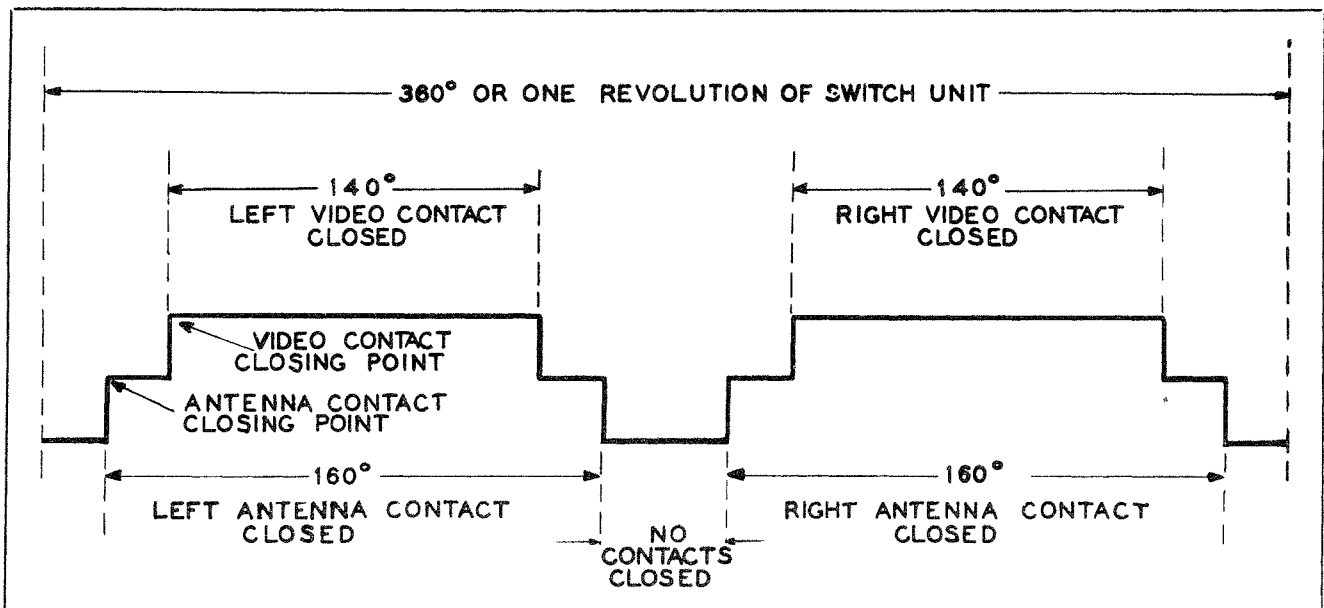
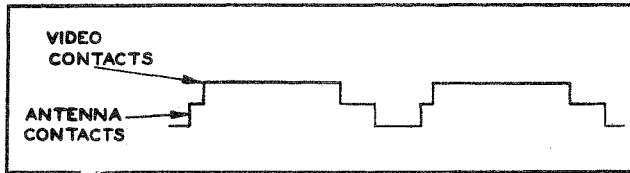
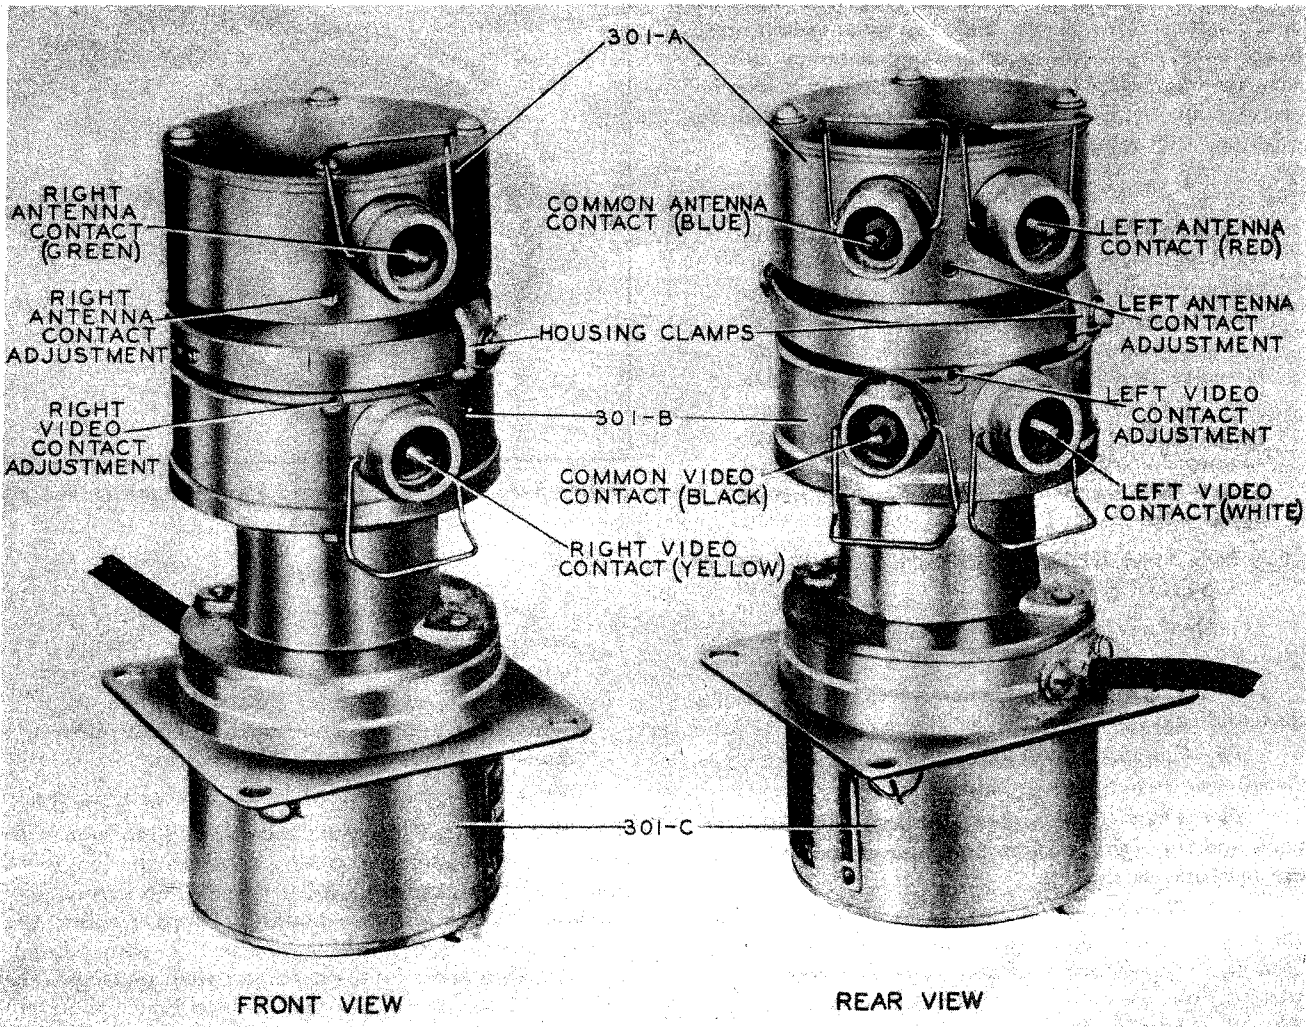

Figure 5-32 Antenna-Video Switch, Waveform Showing Proper Setting
Figure 5-34. Antenna-Video Switch, Waveform Showing Improper Video Setting
Figure 5-35. Antenna-Video Switch, Connections and Adjustments
(3) Connect Indicator BC-929-(*), to the proper d-c power source and turn the antenna-video switch on by setting the "ON-OFF" switch to the "ON" position.
(4) Turn the oscilloscope on by setting the "INTENSITY-OFF" switch in the "INTENSITY" position.
(5) Make the proper adjustments on the oscilloscope controls until a picture is obtained on the oscilloscope, as shown in figure 5-32.
If the oscilloscope is non-linear, an untrue or distorted trace may be obtained. For example, in figure 5-32, the left video and antenna traces may appear much larger or smaller than the right video and antenna traces and may even appear out of the specified tolerances.
(7) If the picture shown in figure 5-34 is obtained, the video contacts are closing and opening too soon with respect to the antenna contacts, although the length of time that they remain closed is correct. To correct this condition, loosen the two housing clamps, holding the antenna switch to the video-switch section, shown in figure 5-35, thus allowing the antenna-switch housing to be moved with respect to the video-switch housing. Rotate the antenna (top) housing until a picture is obtained as shown in figure 5-32.
holes on each side of the video-switch housing. (See fig. 5-35.)
(c) Adjust the desired contact until the waveform shown in figure 5-32 is obtained.